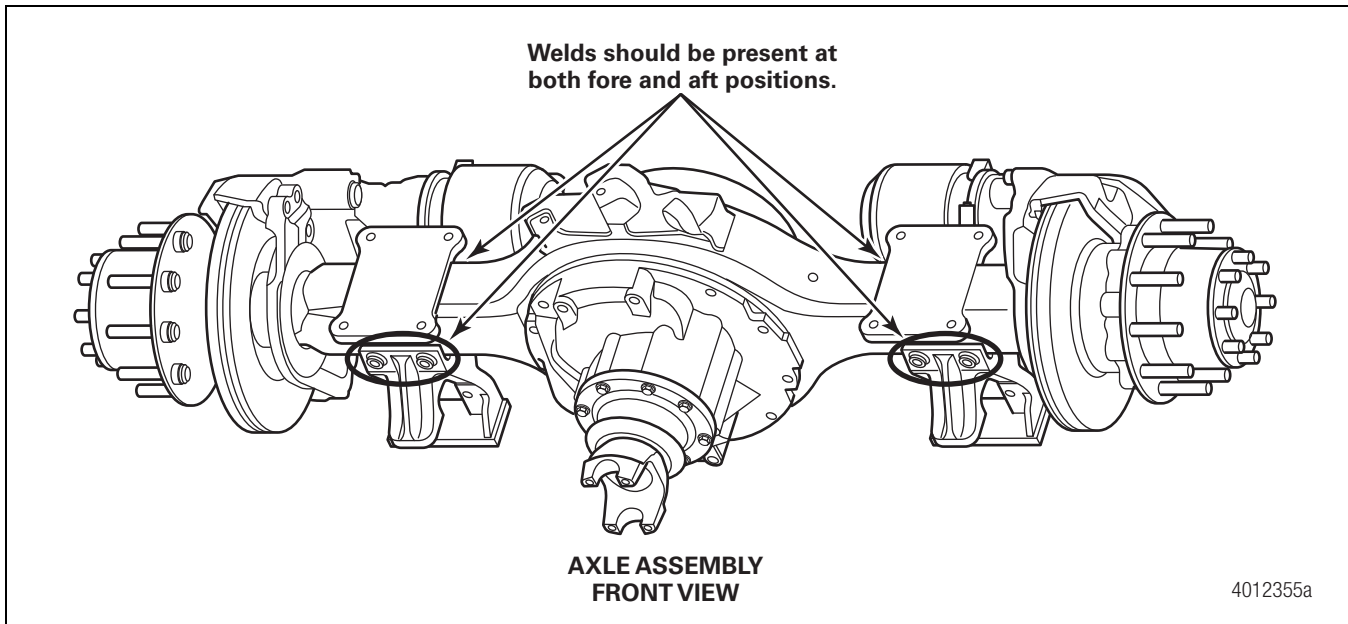
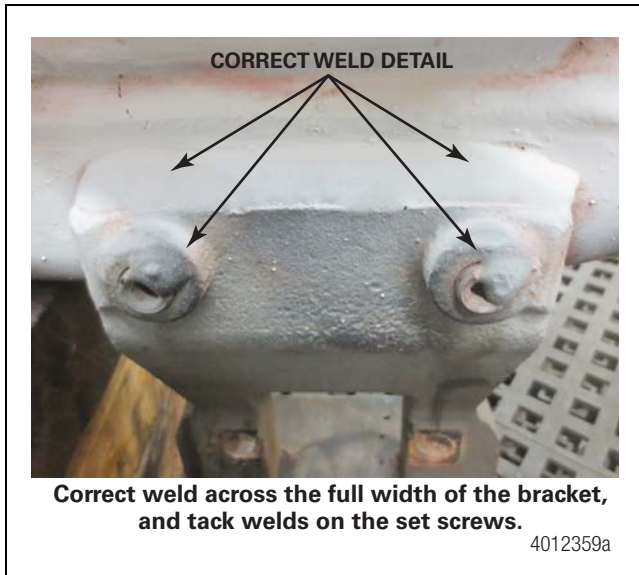

Figure 2
Figure 3
2. From underneath the vehicle, inspect the bracket-to-axle housing interface for the presence of the weld. Figure 2 and Figure 3 outline the bracket locations and the minimum weld presence requirements.